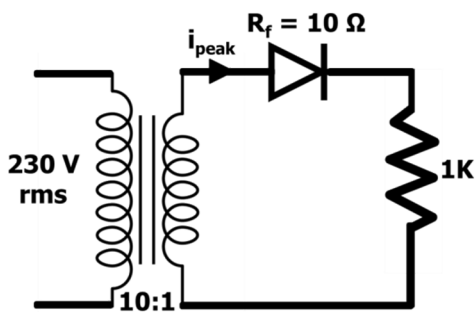

Fig 2.28
**Problem 2.13:** If the transformer in the previous example is used, what is the peak secondary current in this circuit in fig 2.28? Assume secondary has a resistance of 5 ohms.